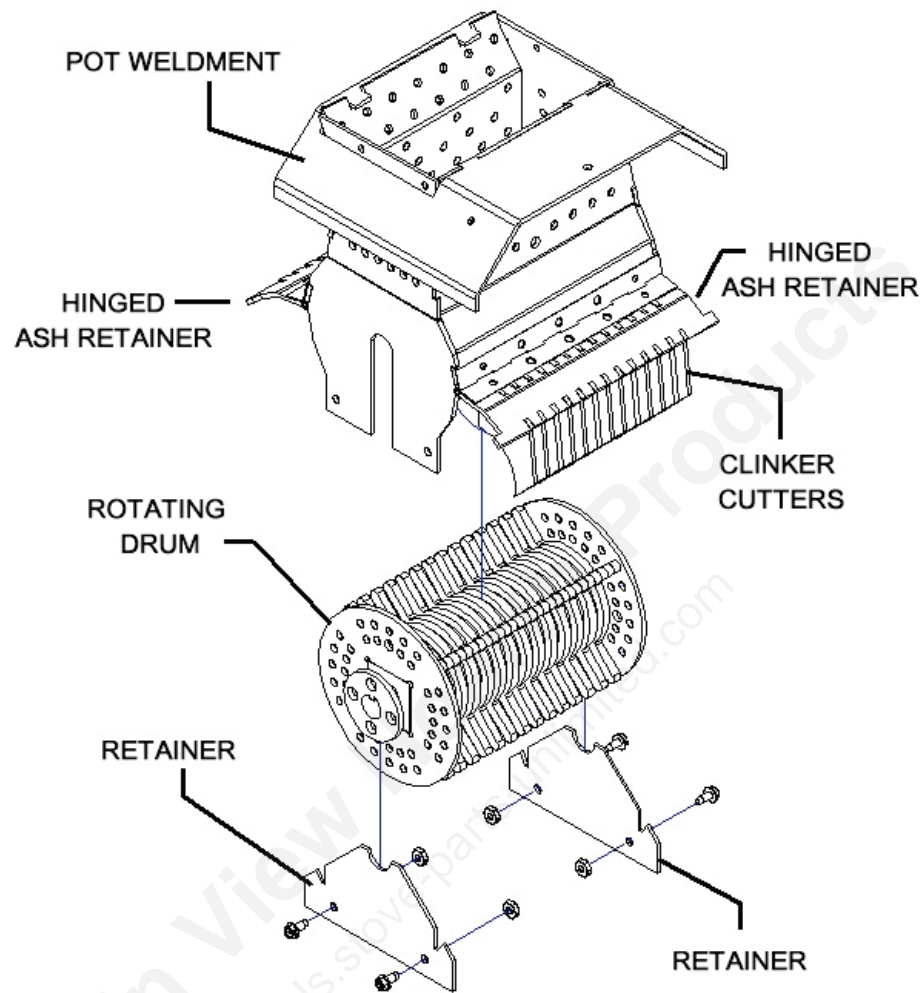

Figure 6
**Fan/Limit Control - Please see Figure 6 on page 129 for more information regarding adjusting or replacing the Fan/Limit Control.**